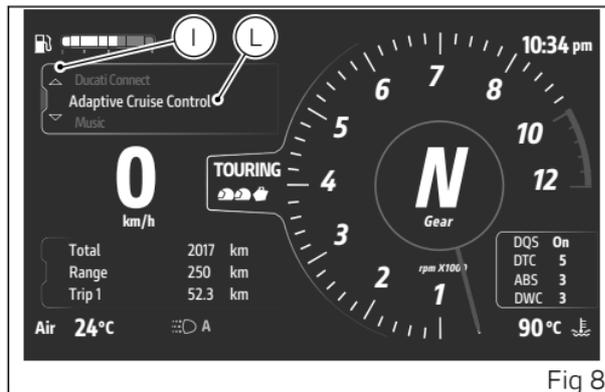

Fig 8
- Select the Interactive Menu (I, Fig 8), by pressing and holding the joystick in ▲ position for a long time.
- Use joystick ▲ ▼ to select “Adaptive Cruise Control” (L, Fig 8) and press ENTER.